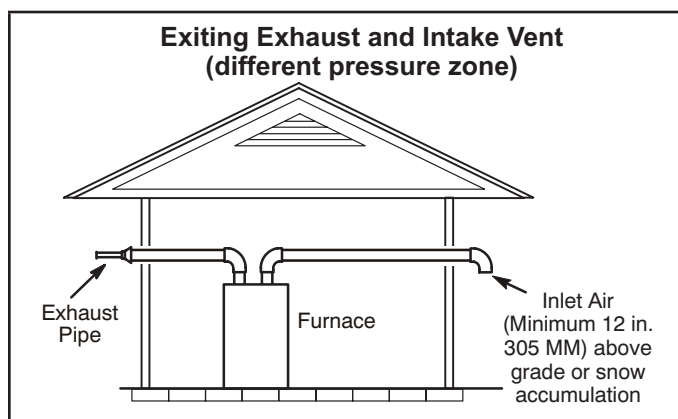
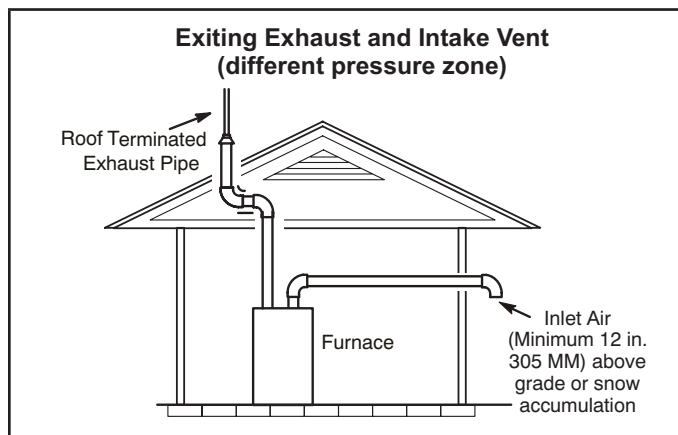

FIGURE 31
FIGURE 32
1 - Intake and exhaust terminations are not required to be in the same pressure zone. You may exit the intake on one side of the structure and the exhaust on another side (FIGURE 31). You may exit the exhaust out the roof and the intake out the side of the structure (FIGURE 32).
- 2 - Use a large flat head screw driver or a 1/2" drive socket extension and remove plug (figure 31) from the cold end header box at the appropriate location on the side of the unit. Install provided 3/4 NPT street elbow fitting into cold end header box. Use Teflon tape or appropriate pipe dope.